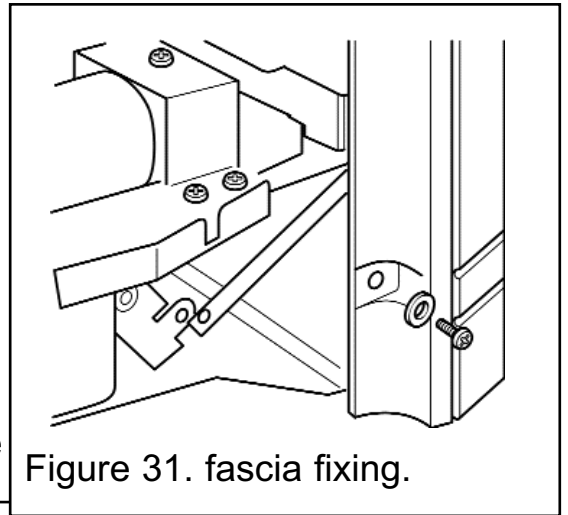

Figure 31. fascia fixing.
3. Secure the bottom of the fascia using the two machine screws and washers supplied (See figure 31).